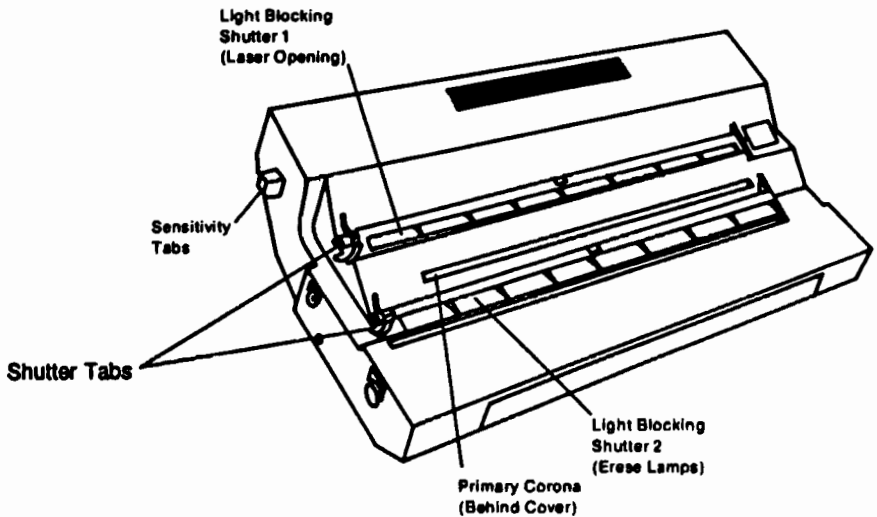

Figure 7-35. EP-S Cartridge
2. Is the Primary Corona wire broken, resulting in black pages?	Inspect. (See Figure 7-35.) If broken, replace the EP-S Cartridge.
3. Are the Light-Blocking shutters on the EP-S Cartridge opening? (A closed laser shutter will result in white pages.)	Inspect the EP-S Cartridge's top to verify that the shutter tabs are not broken or damaged (See Figure 7-35). Inspect the Top Cover Assembly to verify that the plastic protrusions which open the EP-S Cartridge shutters are not damaged.